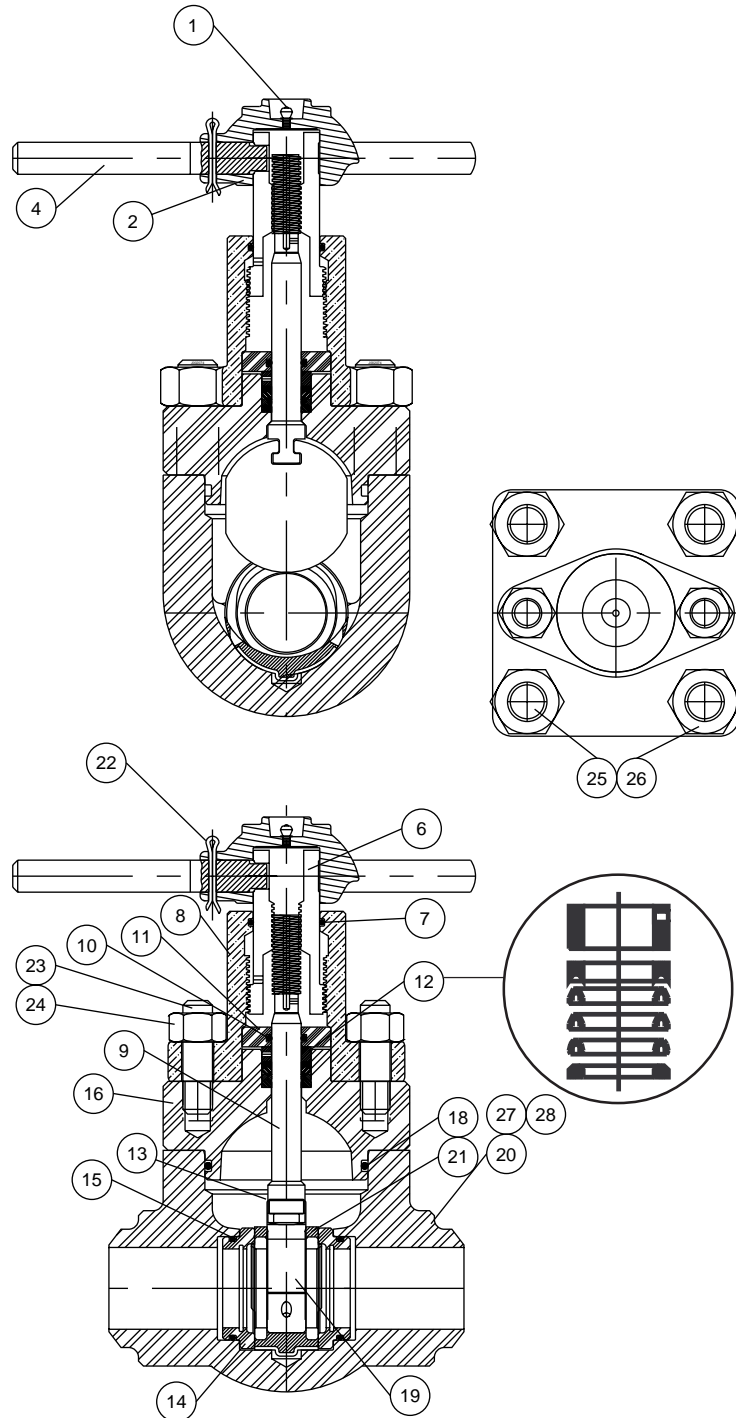

Figure 5 - 2" Series DM 7500 Gate Valve
The stem seal sub assembly (12) consists of a bottom adapter ring, a soft rubber (special) seal ring, a fiber-reinforced seal ring, a flat-backed follower ring and a bushing. These parts must be assembled over the stem (in the order listed) with the hollow side down, as shown (See Figure 5).